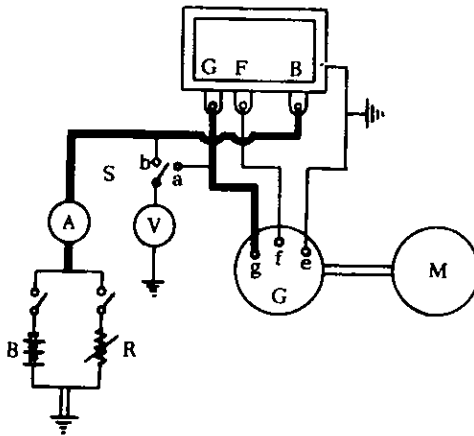

Fig. 7 Wiring Diagram
1) Connection of wire. c.f. (Fig. 7)